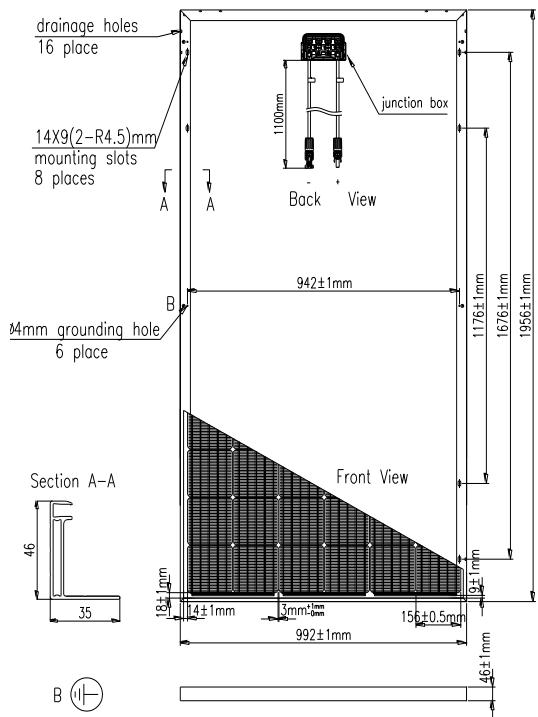
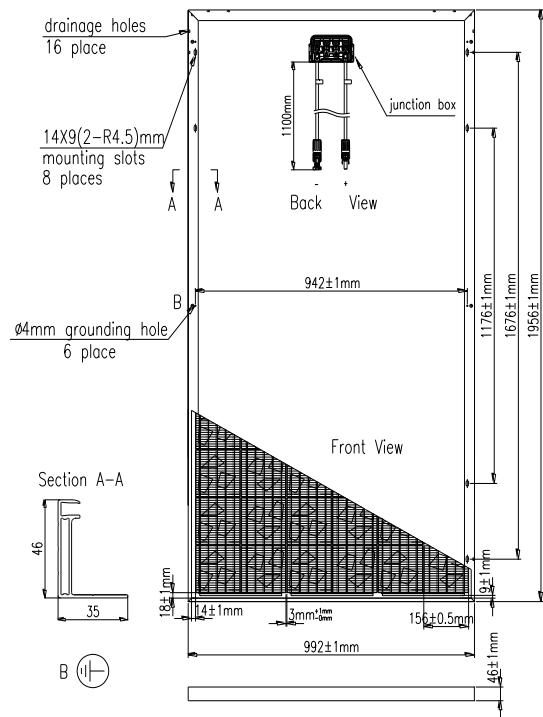
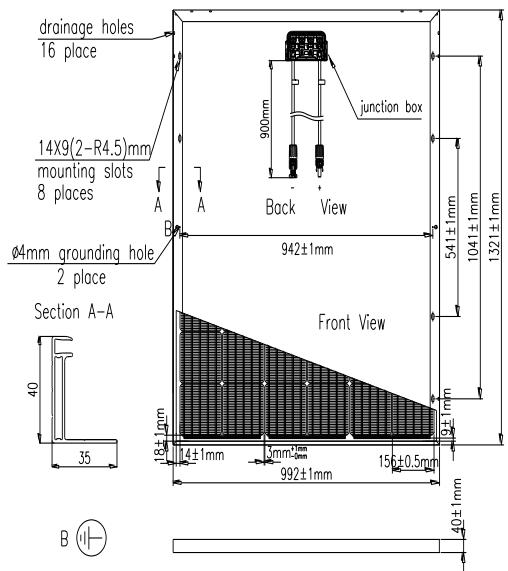

Fig.5-1
Fig.5-2
Fig.5-3
- ① Each module has two grounding holes (see Fig.5-1、Fig.5-2、Fig.5-3、Fig.5-4、Fig.5-5、Fig.5-6、Fig.5-7、Fig.5-8、Fig.5-9、Fig.5-10). The symbol is located adjacent to the terminal.